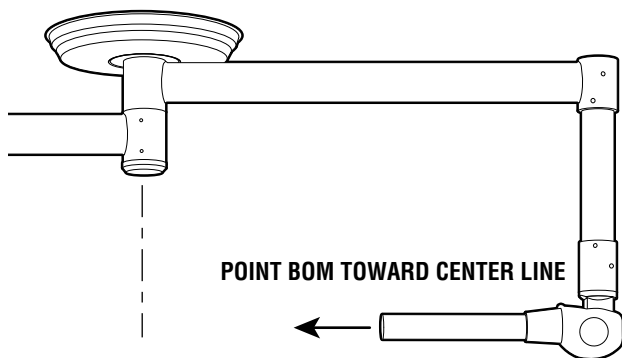
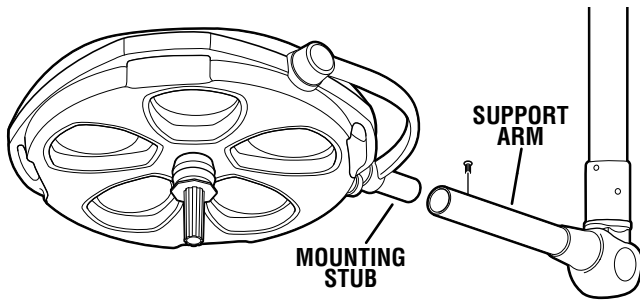

Figure 6.
Figure 9. Model 23 Lighthead Installation
a. To make it easier to install the lighthead, locate the support arm of the balance mechanism so that it points inward toward the ceiling cover. This will prevent the radial arm from moving when installing the lighthead. See figure 6.
b. Remove the four (4) screws from the lighthead mounting stub.
c. Install the lighthead mounting stub into the support arm and secure with the screws previously removed. See figure 9.